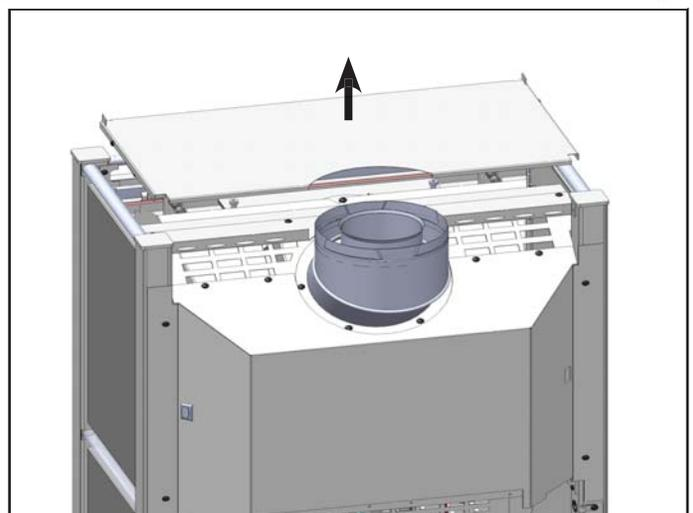

Fig.20
1. Remove the top assembly from the appliance and set aside. (**Fig.20**)